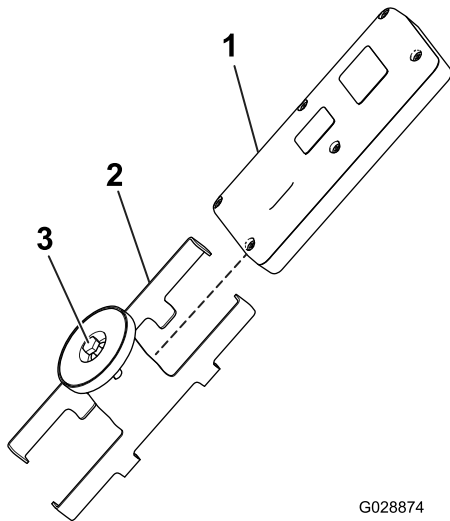

Figure 25
1. Loosen the bolt in the magnet on the magnetic remote bracket (Figure 25).
2. Slide the bracket sides apart and remove the remote (Figure 25).
8. Install the handheld remote into the magnetic remote bracket, slide the halves together to secure the remote, and tighten the bolt in the magnet (Figure 25).